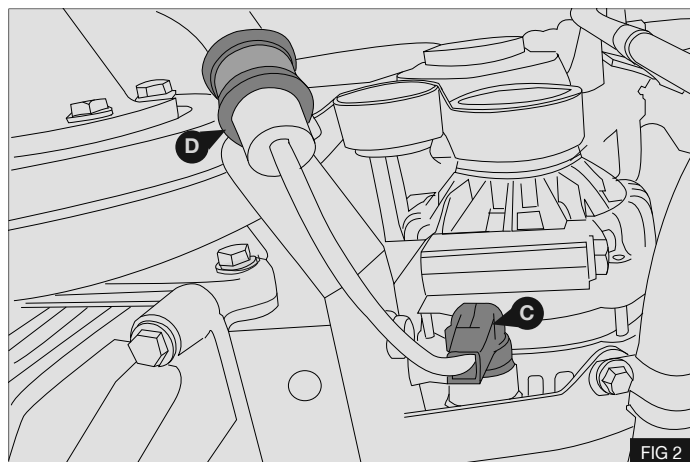
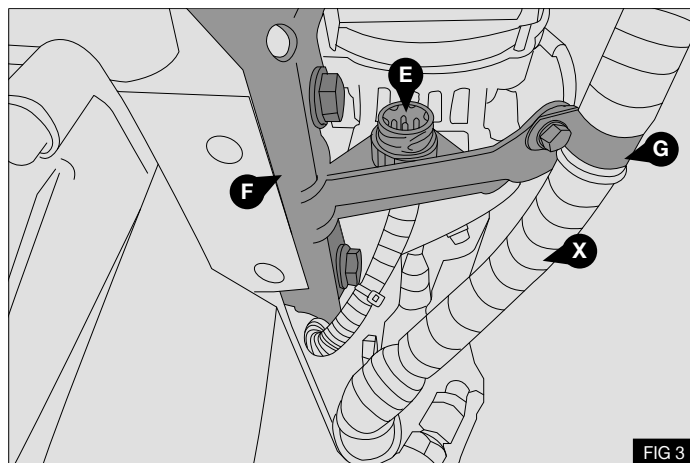

FIG 2
FIG 3
3. Disconnect the fan plug (C), Remove and retain p-clip (D) - Fig 2
4. Remove wiring plug (E) from bracket (F)
5. Remove and discard p-clip (G)
6. Remove and discard bracket (F) and 2x securing bolts - Fig 3
7. Disconnect the oil fill pipe (X) from the oil sump